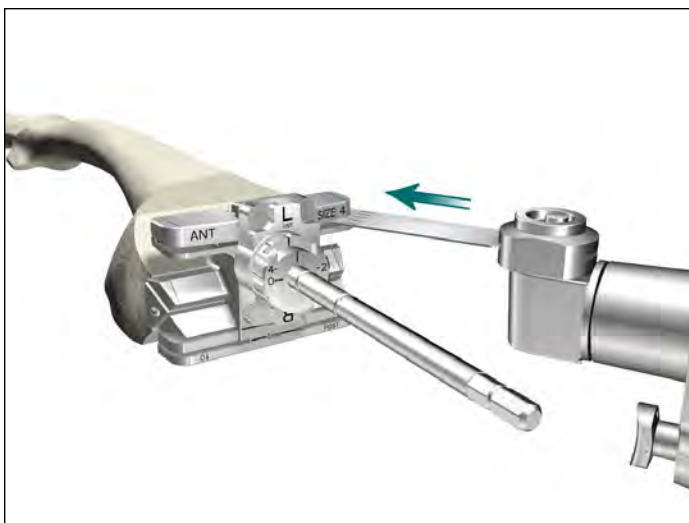

Figure 26
- Complete the four femoral resections as well as any 5mm and 10mm posterior augment resections using a 15mm oscillation saw blade (**Figure 26**).